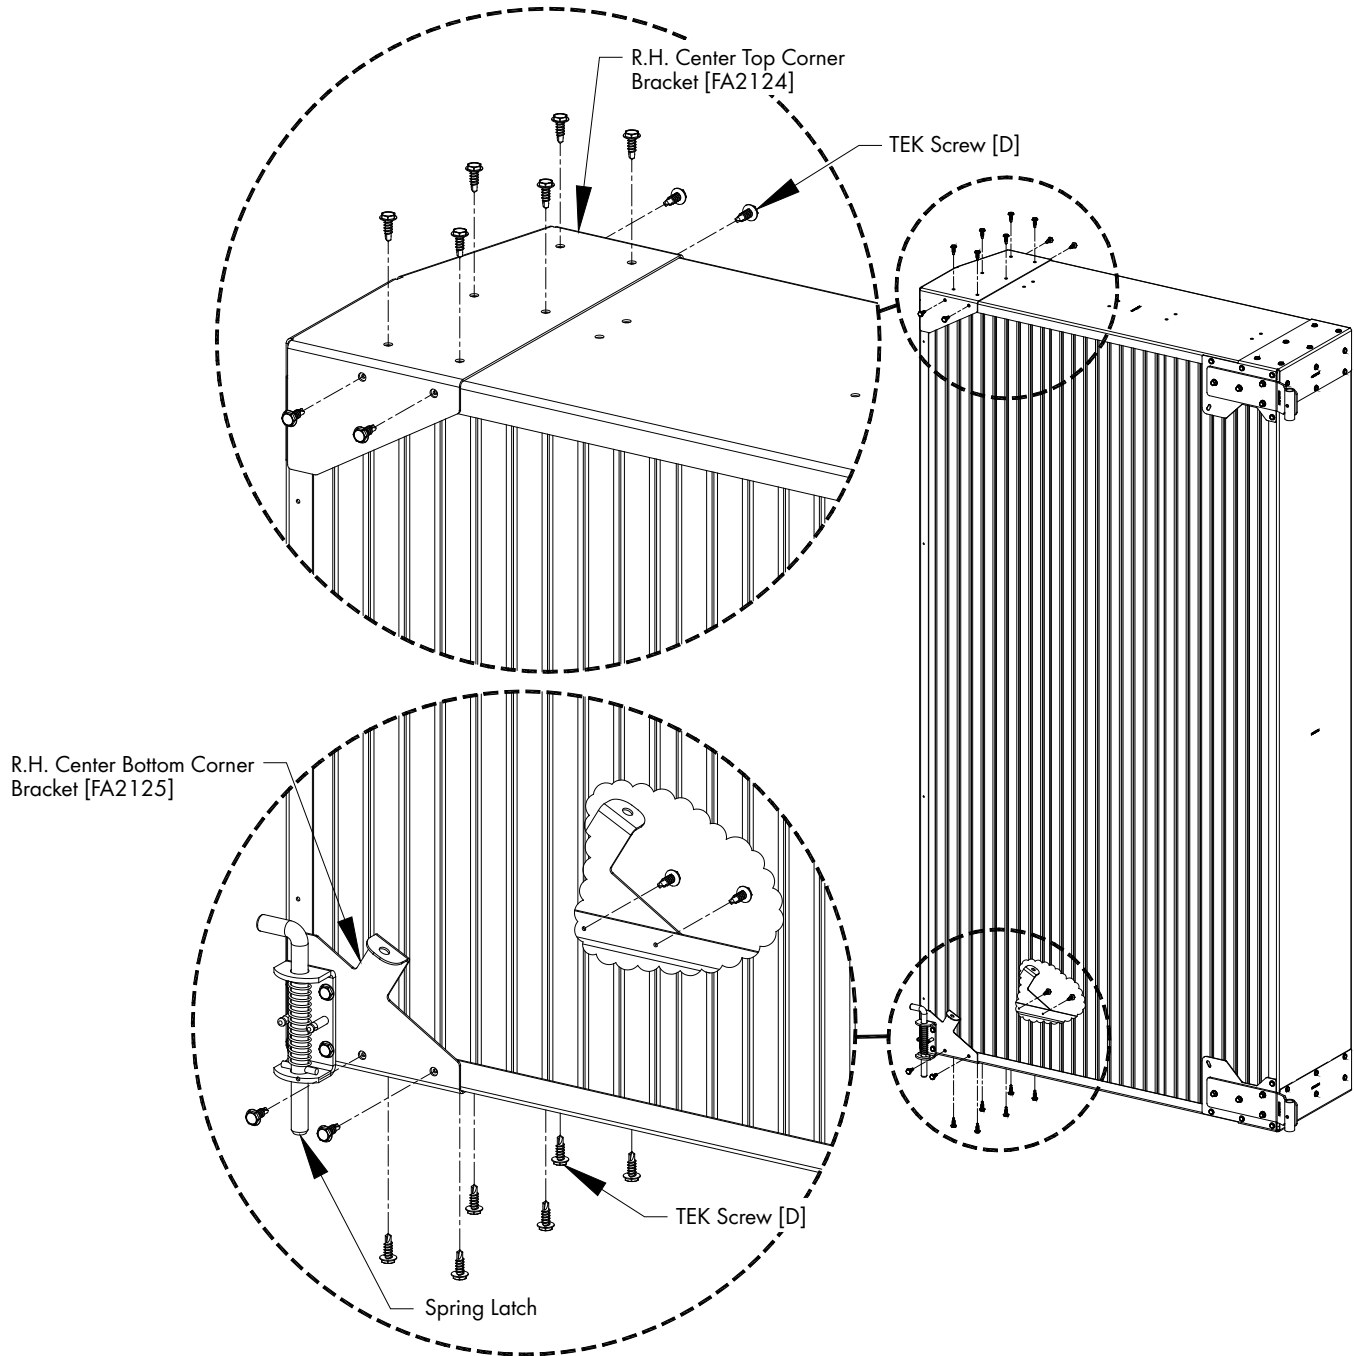

Figure 20
Place the Assembly from the previous step over the R.H. Door to hold the Light Trap in place, so that the Spring Latch is at the bottom on the same side as the Leaf Hinge and fasten in place using (10) TEK Screws [D] in the Top Corner Bracket and (10) TEK Screws [D] in the Bottom Corner Bracket. See Figure 20.